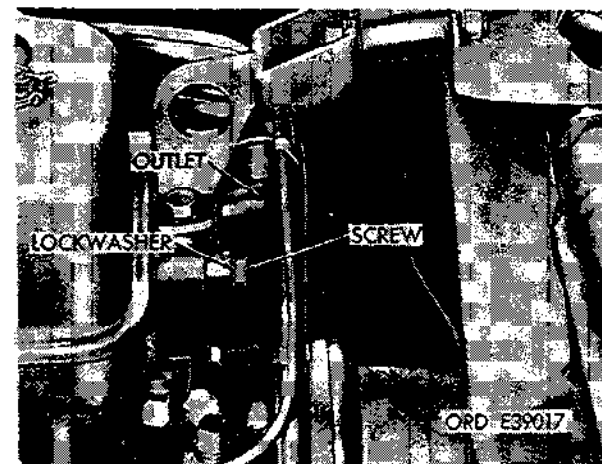

Figure 2-137. Remove coolant outlet.
(3) Remove two screws and lockwashers retaining coolant outlet to cylinder head (fig. 2-137).